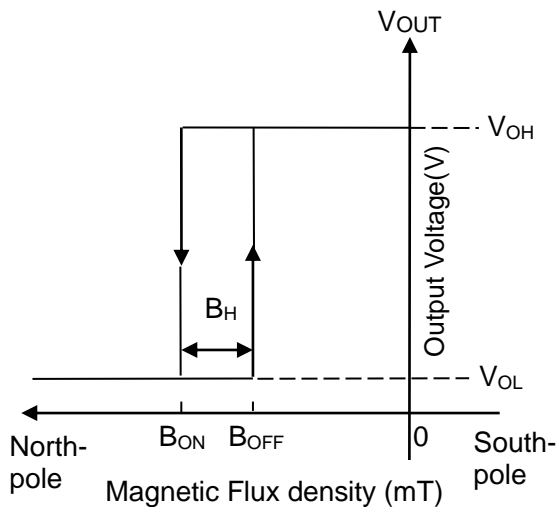

Fig.9 Magnetic operating characteristics (North-pole detection type: TCS30NPU)
- ② North-pole detection type (Fig.9 shows the magnetic operating characteristics)